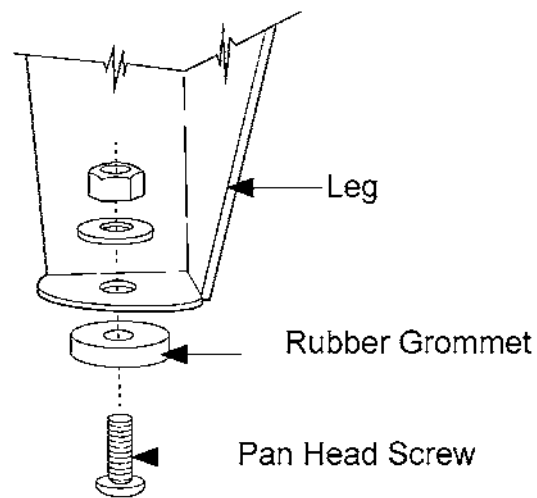

Figure 8
4. To attach rubber feet to each leg, first use a cross-point screwdriver and screw the 1/4-20 x 1 pan head screw through the recessed hole of the rubber grommet as shown in Figure 8. Push the screw through the hole provided at the bottom of each leg, and tightly fasten down with 1/4 flat washer and 1/4 hex nut.